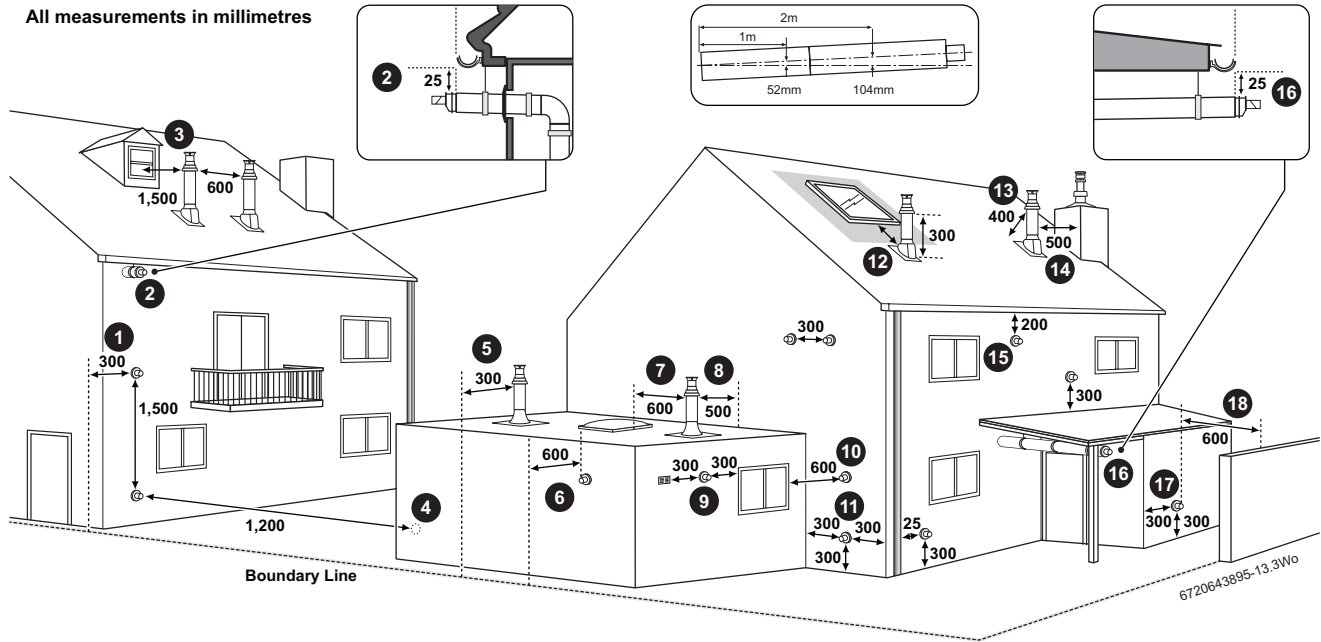

Fig. 15 Flue terminal positions
- ▶ Refer to figure 15 for all concentric flue terminal positions unless the flue position is specified on the figure above "Plume terminal positions".